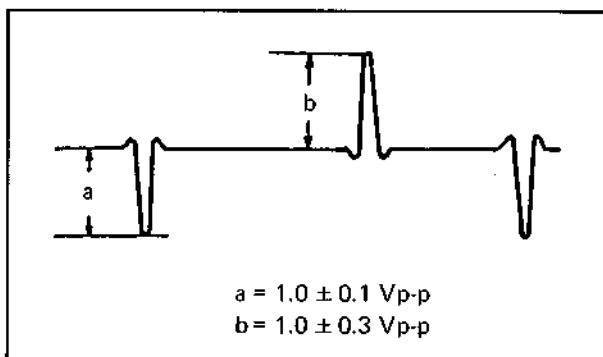

Fig. 5-5 Drum pulse
3. Adjust R32 (DRUM PULSE LEVEL) so that negative polarity level becomes 1.0 Vp-p as shown in Fig. 5-5.